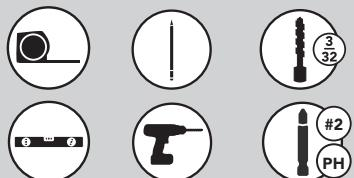

FIGURE 3.1
**NOTE:** If rear cabinet wall is less than 1/2" thick, the use of a furring strip may be necessary (See Fig 3.1).